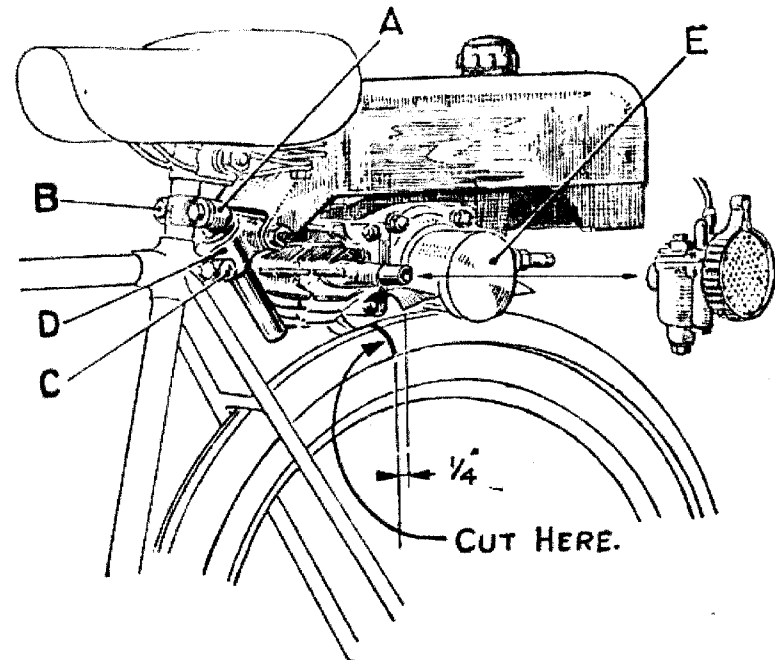

Fig. 2
- (1) Rest the unit on the rear mudguard (if there is a carrier or other fitment over the rear wheel this must first be removed). Fasten the elbow lug "A" on to the saddle pillar as low as possible, but do not completely tighten the clamp bolts "B" (Fig. 2.)
- (3) Make a mark on the mudguard at a distance of about  $\frac{1}{4}$  in. forward of the roller mudguard "E" remove the unit and cut the mudguard in two halves at the mark, allowing the rear portion of the cut mudguard to swing backward, leaving a space between the two ends. (Fig. 2.)